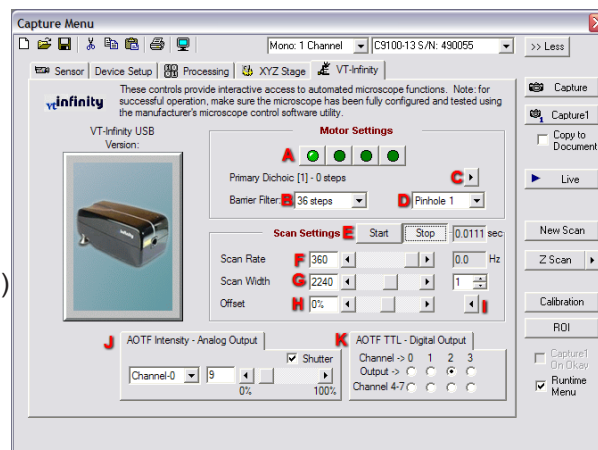

fig.4
- Conveniently Start/Stop Galvo (**fig.4.E**)
- Adjust speed of Galvo Scan Rate (**fig.4.F**)
- Adjust sweep of Galvo Scan Width (**fig.4.G**)
- Adjust Galvo sweep position with Offset (**fig.4.H**)
- Sync. Scan Width and Offset with current ROI (**fig.4.I**)
- Adjust Laser intensity on selected lines (**fig.4.J**)
- Check On/Off up to eight Laser lines (**fig.4.K**)